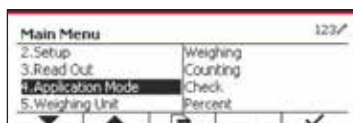

Figure 52
2. With the button corresponding to the , go down the list and highlight Application Mode. Enter this submenu by pressing the button corresponding to the  icon. (See Figure 52)